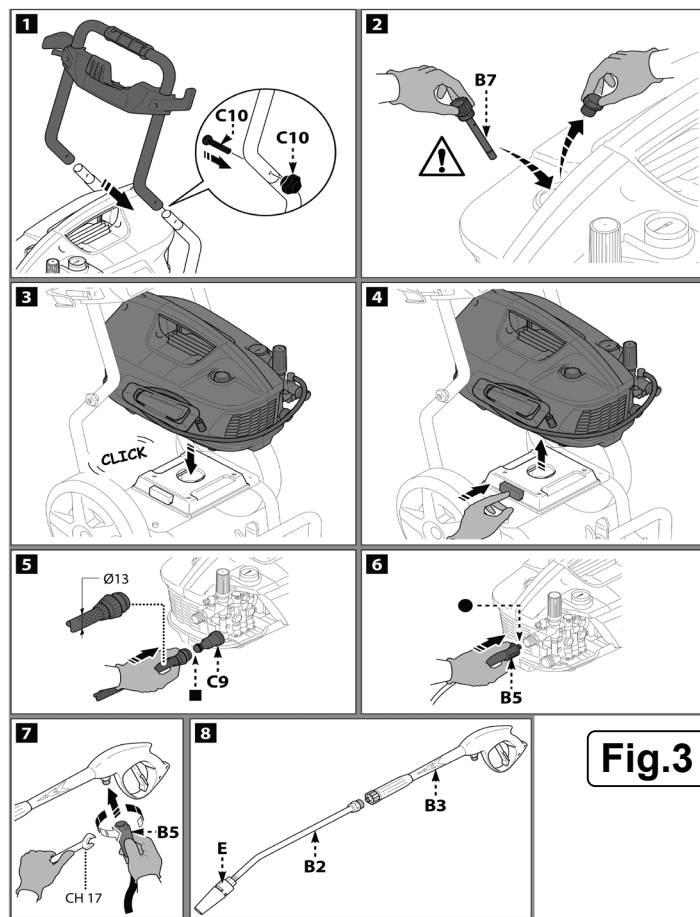
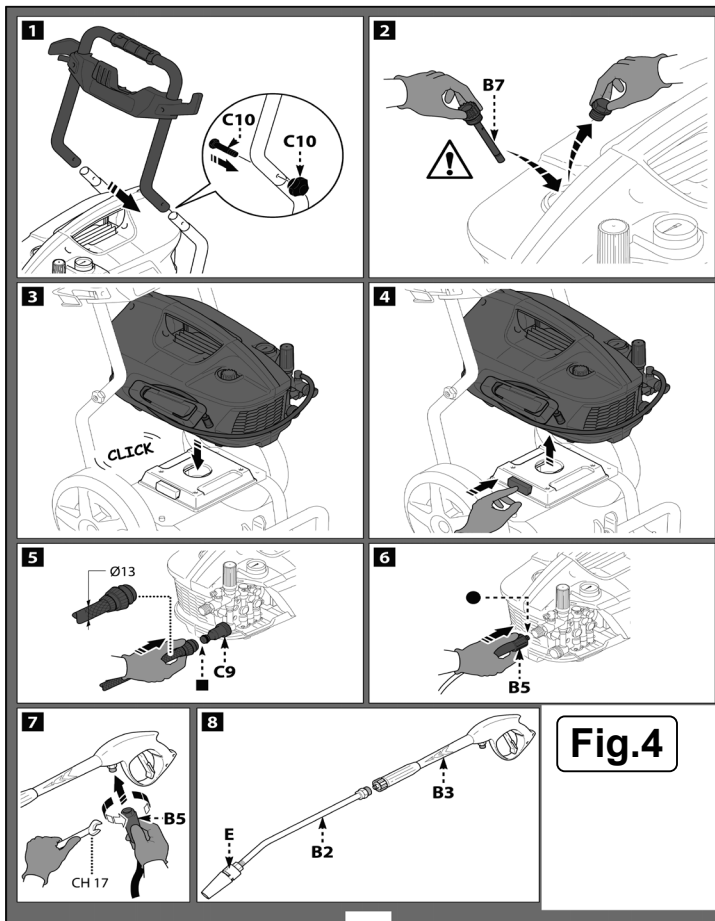

Fig.3
Fig. 4
- 4.2. FIT HANDLE** (fig.1 C3) using the supplied bolts and thumb wheels (fig.1 C10, fig.3 C10).
- 4.3.** Remove the red travel plug from the motor body (fig.3 - 2). Insert the Oil Cap and Dip Stick (fig.1 B7, fig.3.2 B7) and check the oil level. Top up to 'full' mark on stick if necessary.
- 6.4. **REFILLING THE OIL** (for models with this feature) (fig.3 B7, fig.4 2).